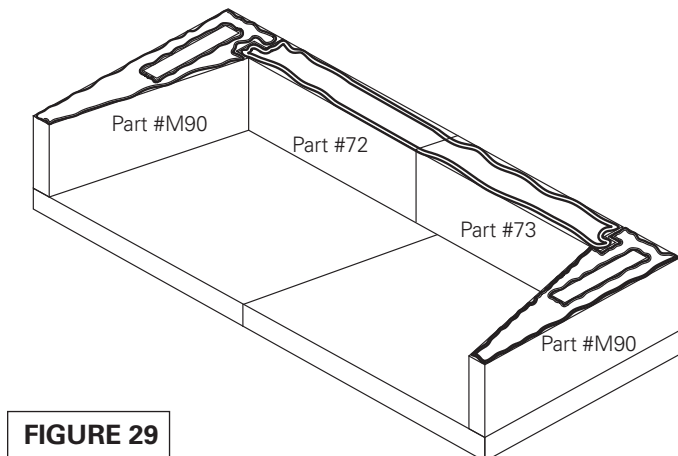

FIGURE 29
2. Set the first course of the firebox side walls and back walls into place. **(Figure 29)**